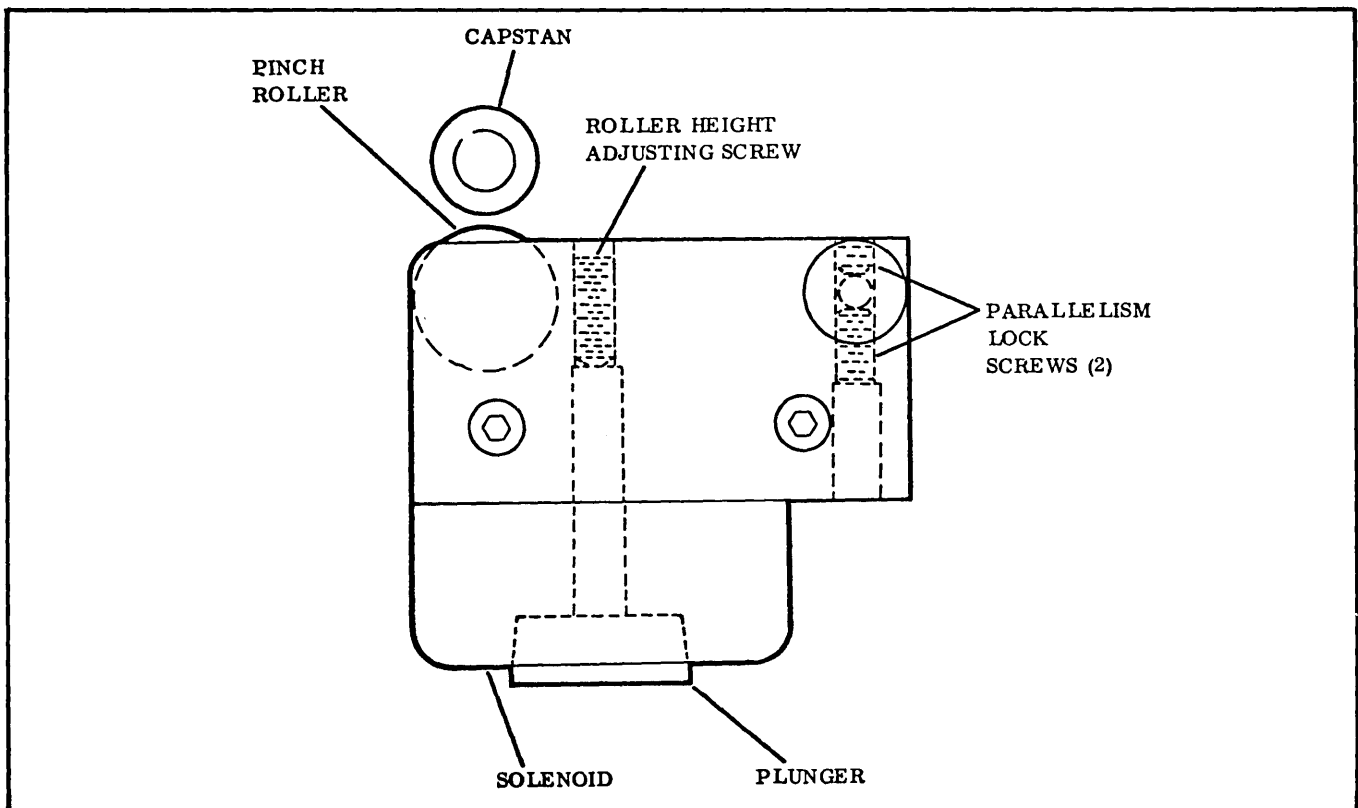

Figure 5-2. Pinch Roller Adjustments
5. Pinch Roller Adjustment (Figure 5-2)